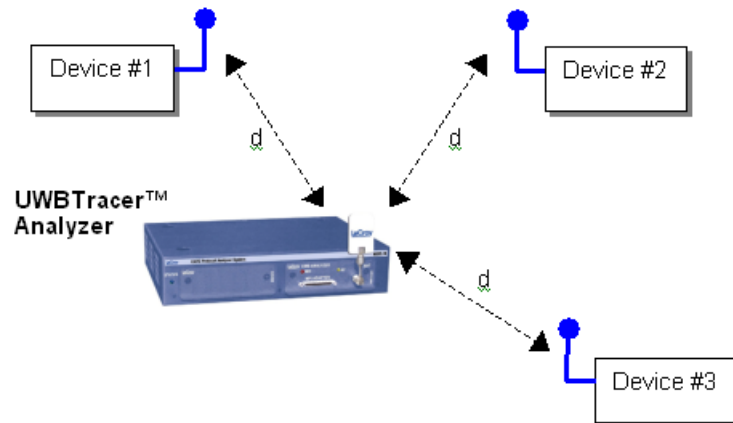

Figure 2.17 Wireless RF Recording
Step 2 Position the analyzer and devices under test at an equal distance from each other, 10 inches apart (Figure 2.17).